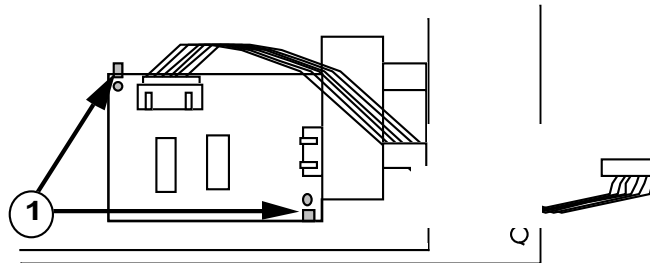

FIGURE 7
6. Note the position of the PCB assembly. Then remove it by gently prying back the two retaining tabs (Figure 7, #1).
1. Position the PCB assembly and snap it under the two retaining tabs (Figure 7, #1).